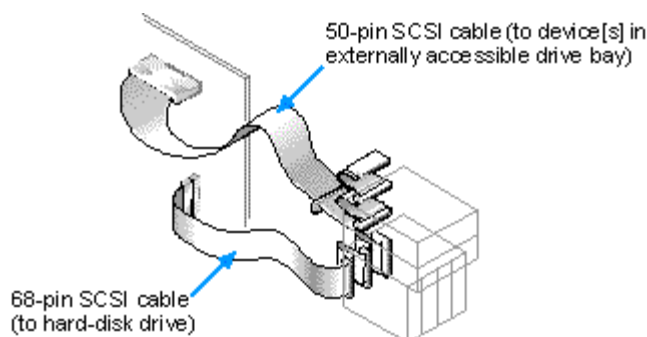

Figure 10-14. Internal SCSI Cable
- The other connectors on the cable are used for attaching up to four SCSI hard-disk drives in the internal drive bays (see Figure 10-14).
- The other connectors on the cable are used for attaching SCSI devices installed in the externally accessible drive bays (see Figure 10-14).